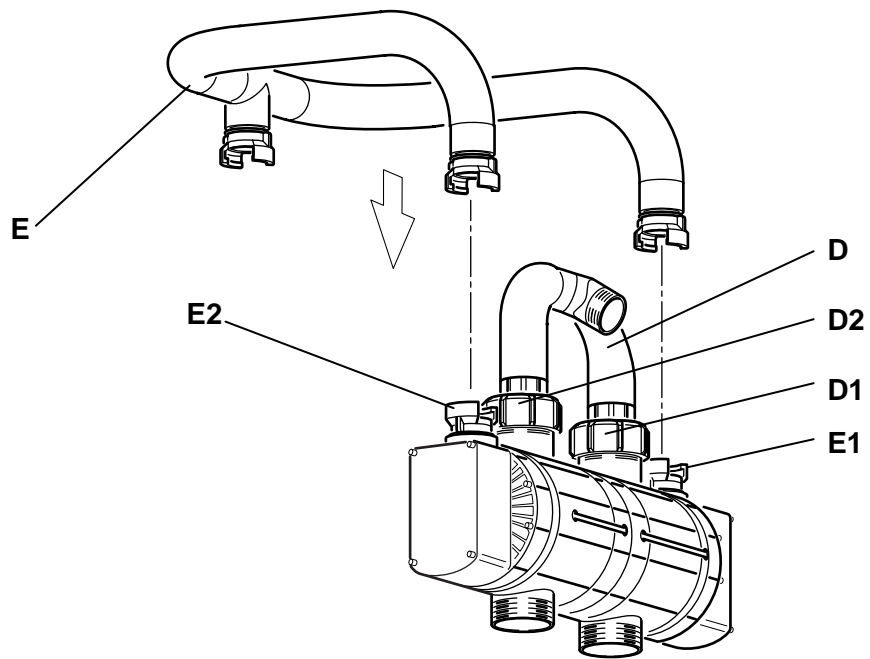

Fig. 4
- 4/** Turn the bi-turbo block so as to fit the inlet manifold (**Fig. 4 - D**) from above to the inlets (**Fig. 4 - D1 and D2**).
- 5/** Keeping the block in this position, fit the tube assembly (**Fig.4 - E**) by engaging the 2 fire hose couplings (**Fig. 4 - E1 and E2**).